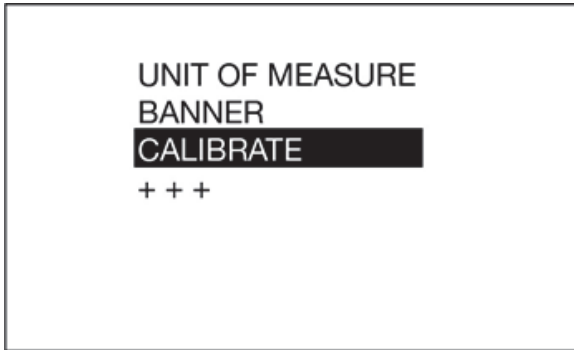

FIG. 25
5. Use the UP or DOWN ARROW button on the keypad to highlight CALIBRATE (FIG. 25) and then press the center ENTER button on the keypad to select the CALIBRATE option.